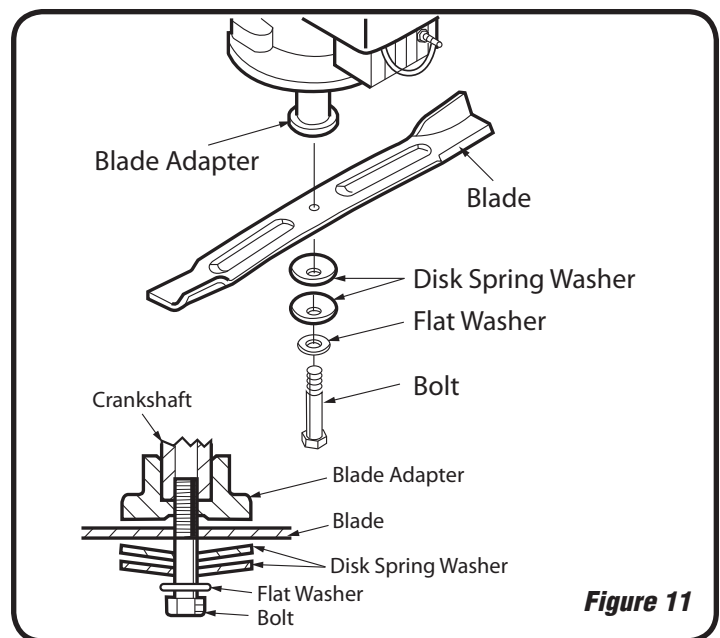

Figure 11
1. Remove the bolt and the washers holding the blade and the blade adapter to the engine crankshaft. See Figure 11
5. Position the blade onto the blade adapter in the correct orientation. On each end of the blade, a blade “lift” portion lies on the opposite side of the blade from the sharpened edge. When positioning the blade onto the blade adapter, make sure the blade “lift” portion is facing towards the mower deck. See Figure 11.
6. Assemble the retaining bolt through the flat washer, (2) disc spring washers, blade, and blade adapter. Make sure the flat washer and (2) disc spring washers are in the proper order and orientation shown in fig. 11.